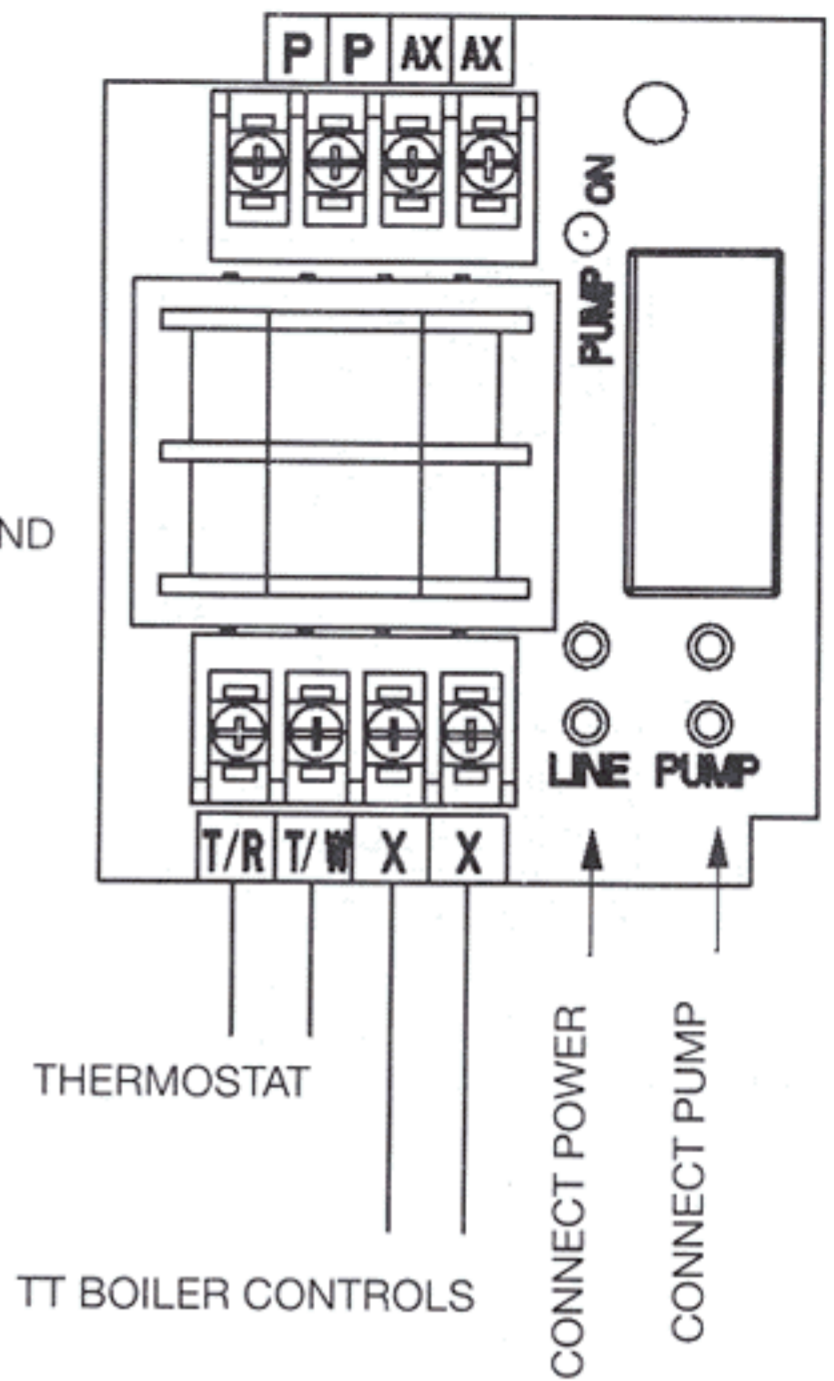

Figure 2: AZ-1 Wiring Diagram
8. Run the thermostat wires through the grommet in the plastic base and connect to the appropriate TR/TW terminals. Run the 24-volt boiler control wires through the grommet in the plastic base and connect to the XX terminals (See figure 2). Do not use the holes in the metal conduit box for 24 volt control wiring. The holes in the metal conduit box are for power wiring only.